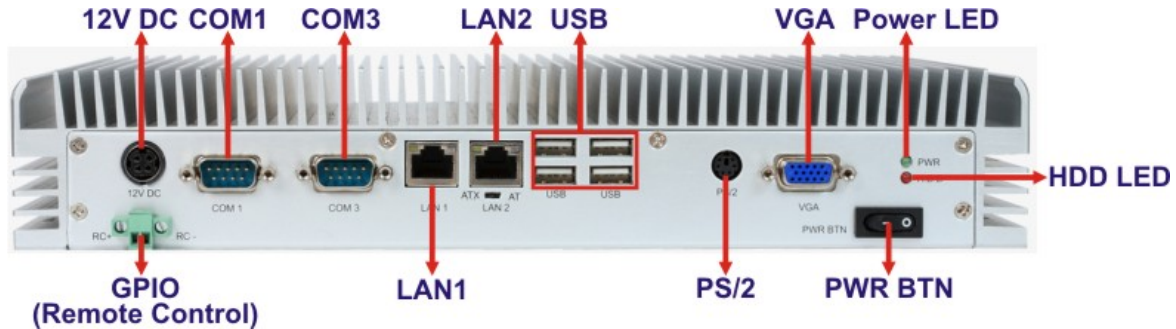

Figure 3-7: Peripheral Connectors (Rear)
- CN Location:** See **Figure 3-7**
CN Location: See **Figure 3-7**
CN Location:	See Figure 3-7
Step 1: **Locate the DB-9 connector.** The location of the DB-9 connector is shown in **Figure 3-7**.